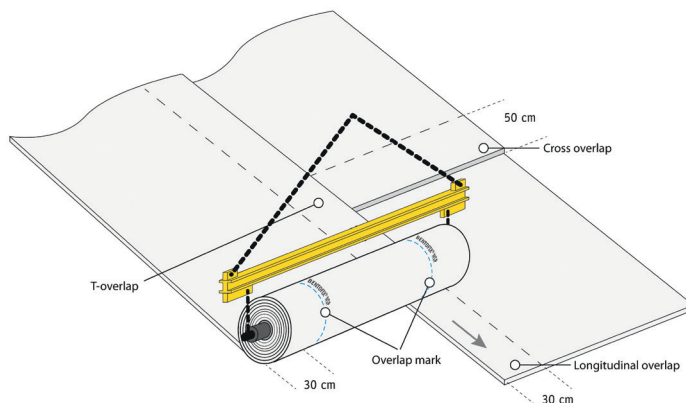

Fig. 10
17.5 T-shaped seams (Fig. 10) should be reduced to a minimum.
17.8 Unless otherwise specified, the minimum dimension of the longitudinal overlap should be 300mm. The edge overlap lines of Bentofix® allow the line-up during the unrolling process (Fig. 10). End-of-roll overlapped seams should be constructed similarly but the minimum overlap should measure 500mm. Care should be taken to maintain these overlap dimensions at the time of covering, in all climatic conditions.
20.1 Uncovered areas should be protected at the edges overnight with a plastic membrane (figure 10) to prevent bentonite hydration.